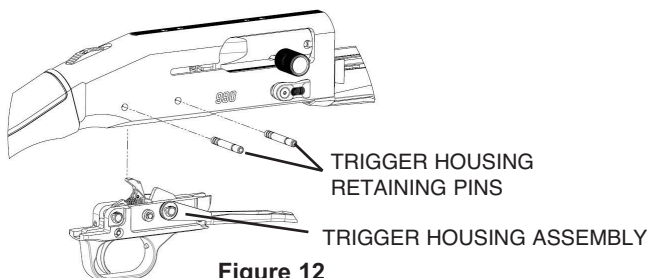

Figure 12
2. Push out the two trigger housing retaining pins using a punch no larger than 1/8" diameter (Figure 12). (The pins can be pushed out from either direction).